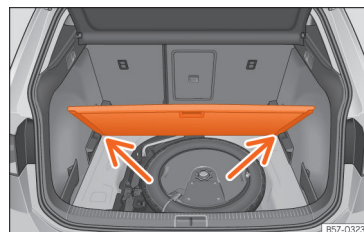

Fig. 169 Variable boot floor: tilted position.
- Rest the floor on its housings »» Fig. 169 [arrows].